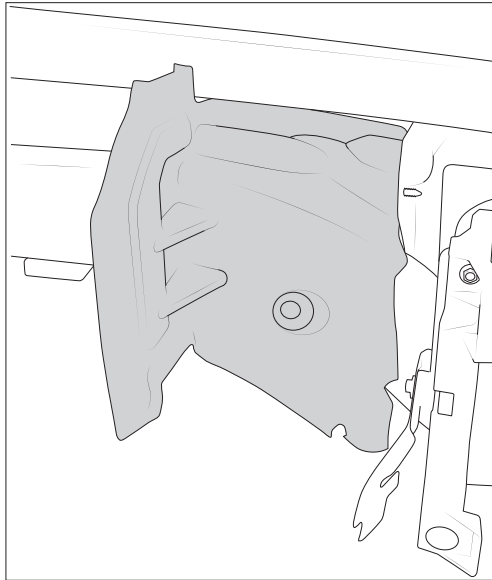

Figure 10
1. Remove Plastic Shroud (Fig. 10).